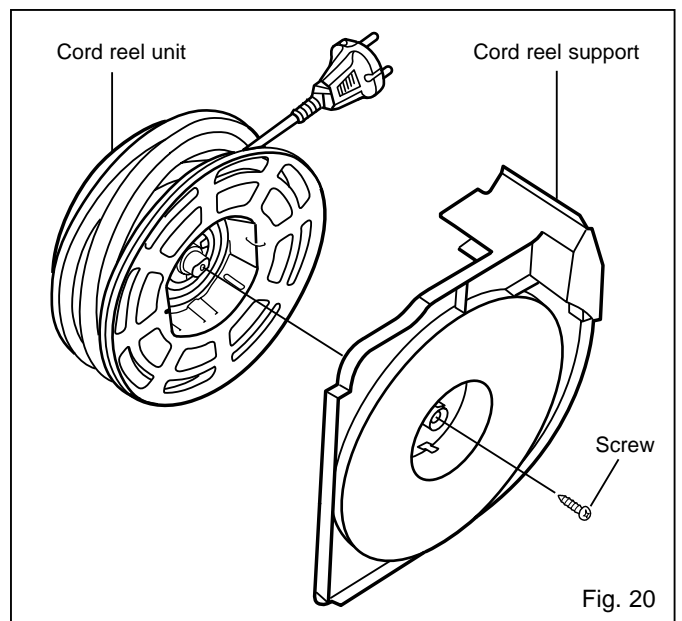

Fig. 20
3. Separate cord reel unit and cord reel support. (Fig. 20)